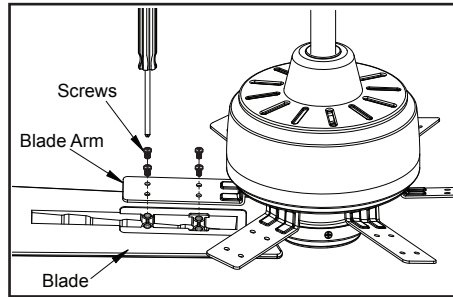

Figure 16
1. Attach blade to blade bracket using mounting hardware provided. Tighten each screw securely. (Figure 16)